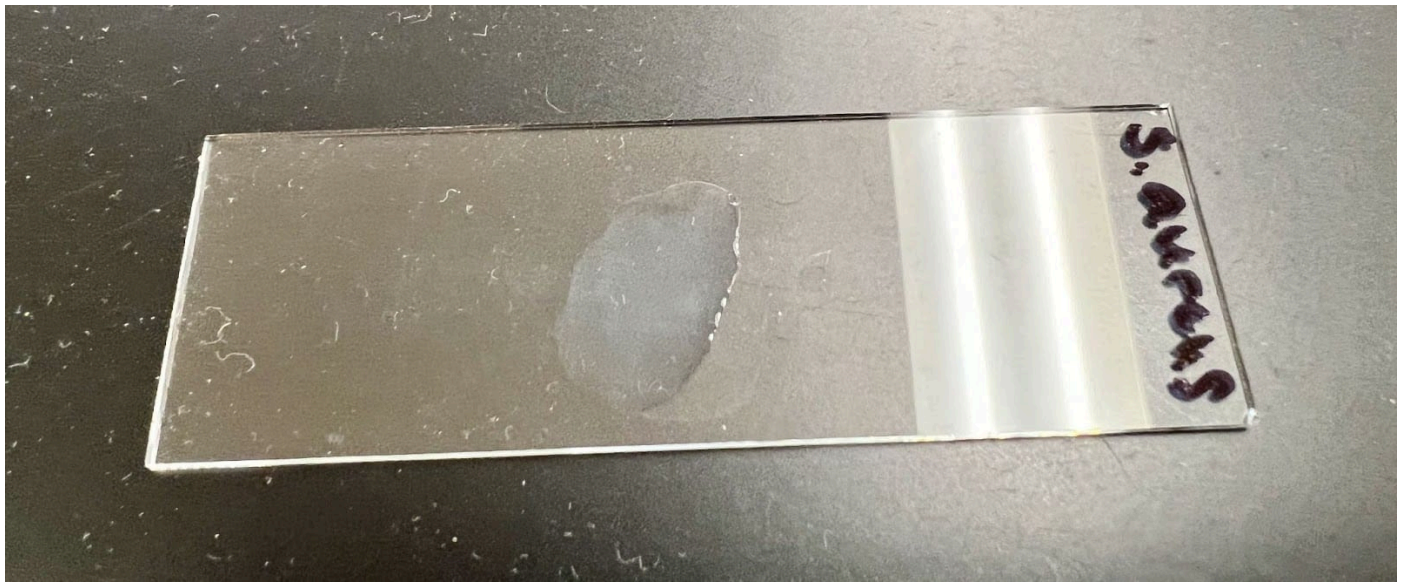

Figure 4.6
4. Use the needle or loop to deposit the bacteria onto the slide in the water droplet. Agitate the loop to get an even distribution of bacteria within the water drop (Figure 4.6).